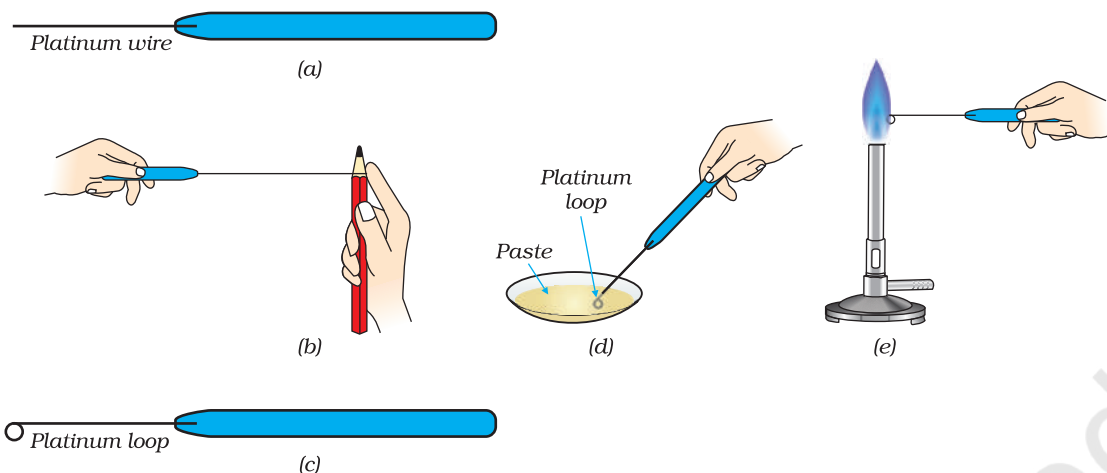

Fig.7.3 : Performing flame test
- To clean the loop dip it into concentrated hydrochloric acid and hold it in a non-luminous flame (Fig. 7.3).
- Dip the clean loop of the platinum wire in this paste and introduce the loop in the non-luminous (oxidising) flame (Fig. 7.3).